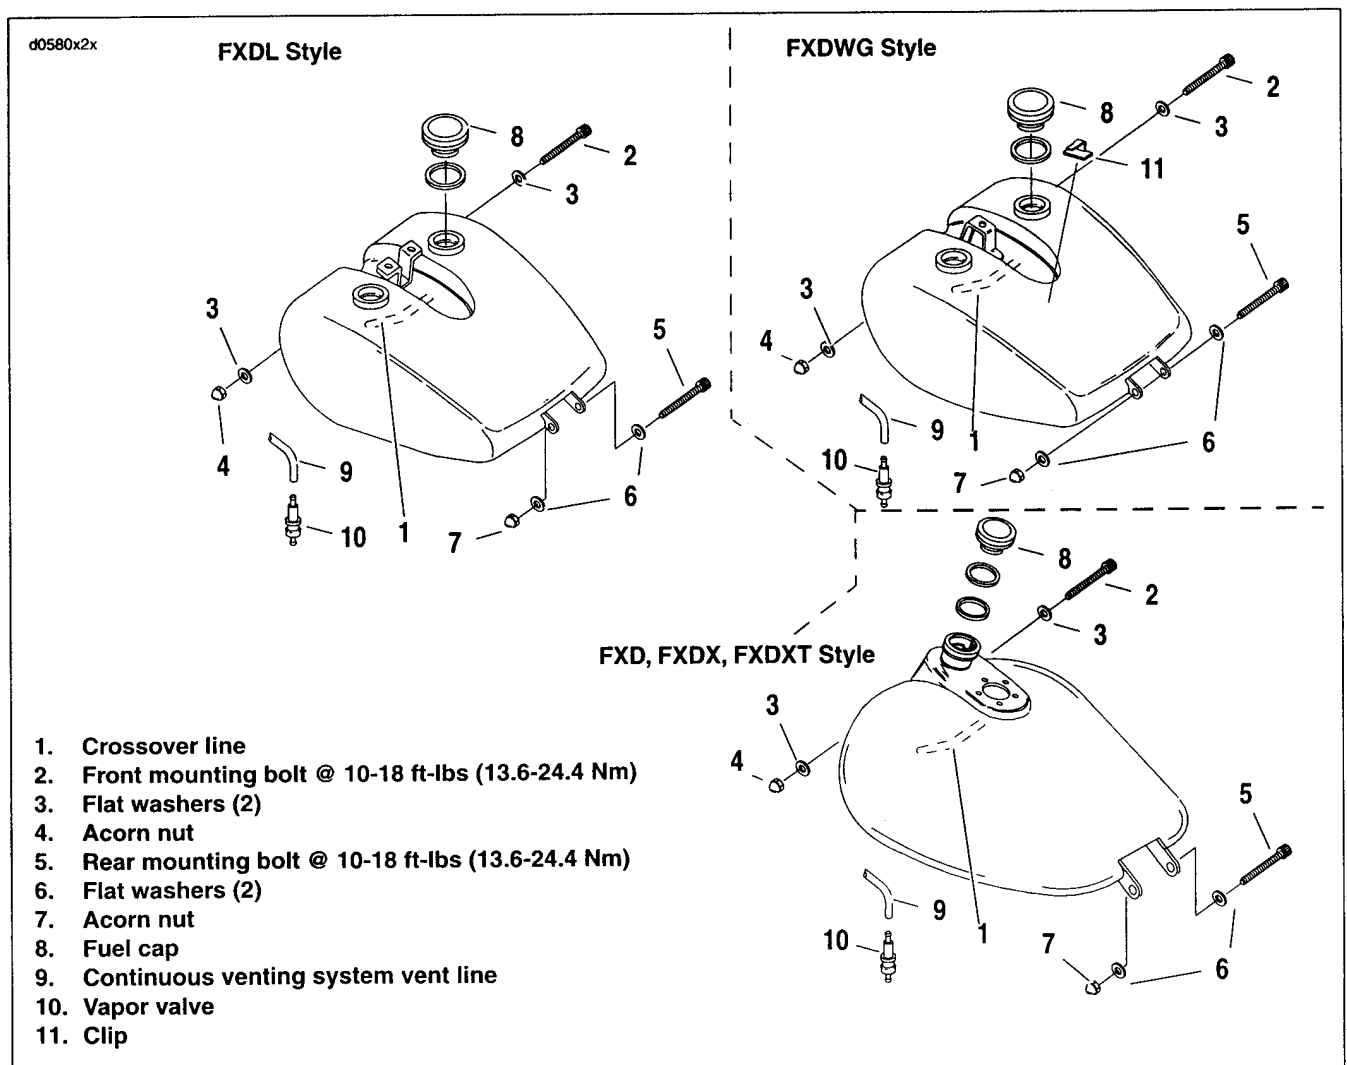

Figure 4-12. Fuel Tank Assembly
4. See Figure 4-12. Disconnect crossover line (1) and continuous venting vent line (9).
5. Remove the front mounting bolt (2), flat washers (3), and acorn nut (4).
6. Remove the rear mounting bolt (5), flat washers (6), acorn nut (7).
1. See Figure 4-12. Install continuous venting system vent line (9) and vapor valve (10).